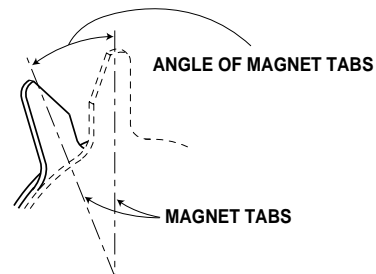

Figure 3. Adjusting Magnet
11. Adjust the angle between the two purity magnet tabs to center the vertical green belt in the picture tube. Do not rotate tabs. See Figure 3.